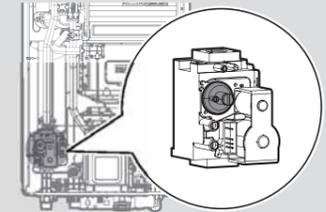

Figure 10
- Fully open a hot water fixture and set the water heater to operate at 1-stage MIN mode (refer to page 8). Measure the offset value at low fire and compare it to the values in Table 3. If the offset value is out of range, the gas valve set screw will need to be adjusted. If adjustment is necessary, locate the set screw as shown in Figure 10. Using a 5/32 in or 4 mm Allen wrench, turn the set screw no more than 1/4 turn clockwise to raise or counterclockwise to lower the offset value.